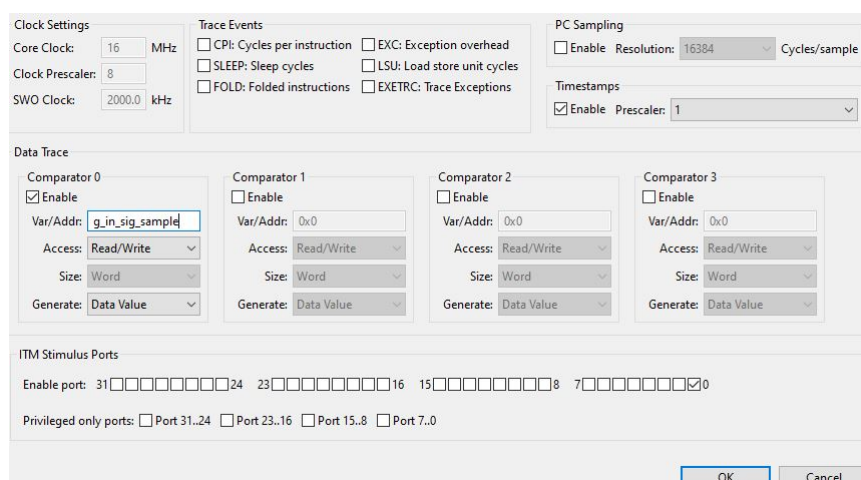

Figure 2.2: Enabling port to see global variable
- Now on the gear port, enable the global variable as shown in Figure 2.2